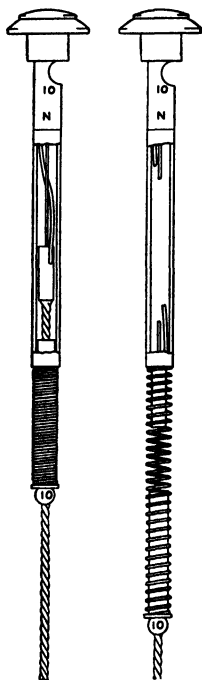

FIG. 7-17. Typical expulsion-fuse link before and after blowing. Fuses of this type are rated up to 25 amp. (Courtesy James R. Kearney Corp.)
**Expulsion-fuse Links.** A typical fuse link specially designed for operation in cutouts is illustrated in Fig. 7-17. This figure shows the fuse to consist of an upper terminal button, a fusible section, and a flexible cable, or pigtail. The fuse element itself is contained in a small-bore fiber tube and is held taut by means of a compressed spring. In some other makes a tension spring is employed. The actual spring tension is carried by a very thin strain wire.
thin strain wire. This wire melts instantly and allows the spring to separate the fuse terminals as shown in Fig. 7-17.